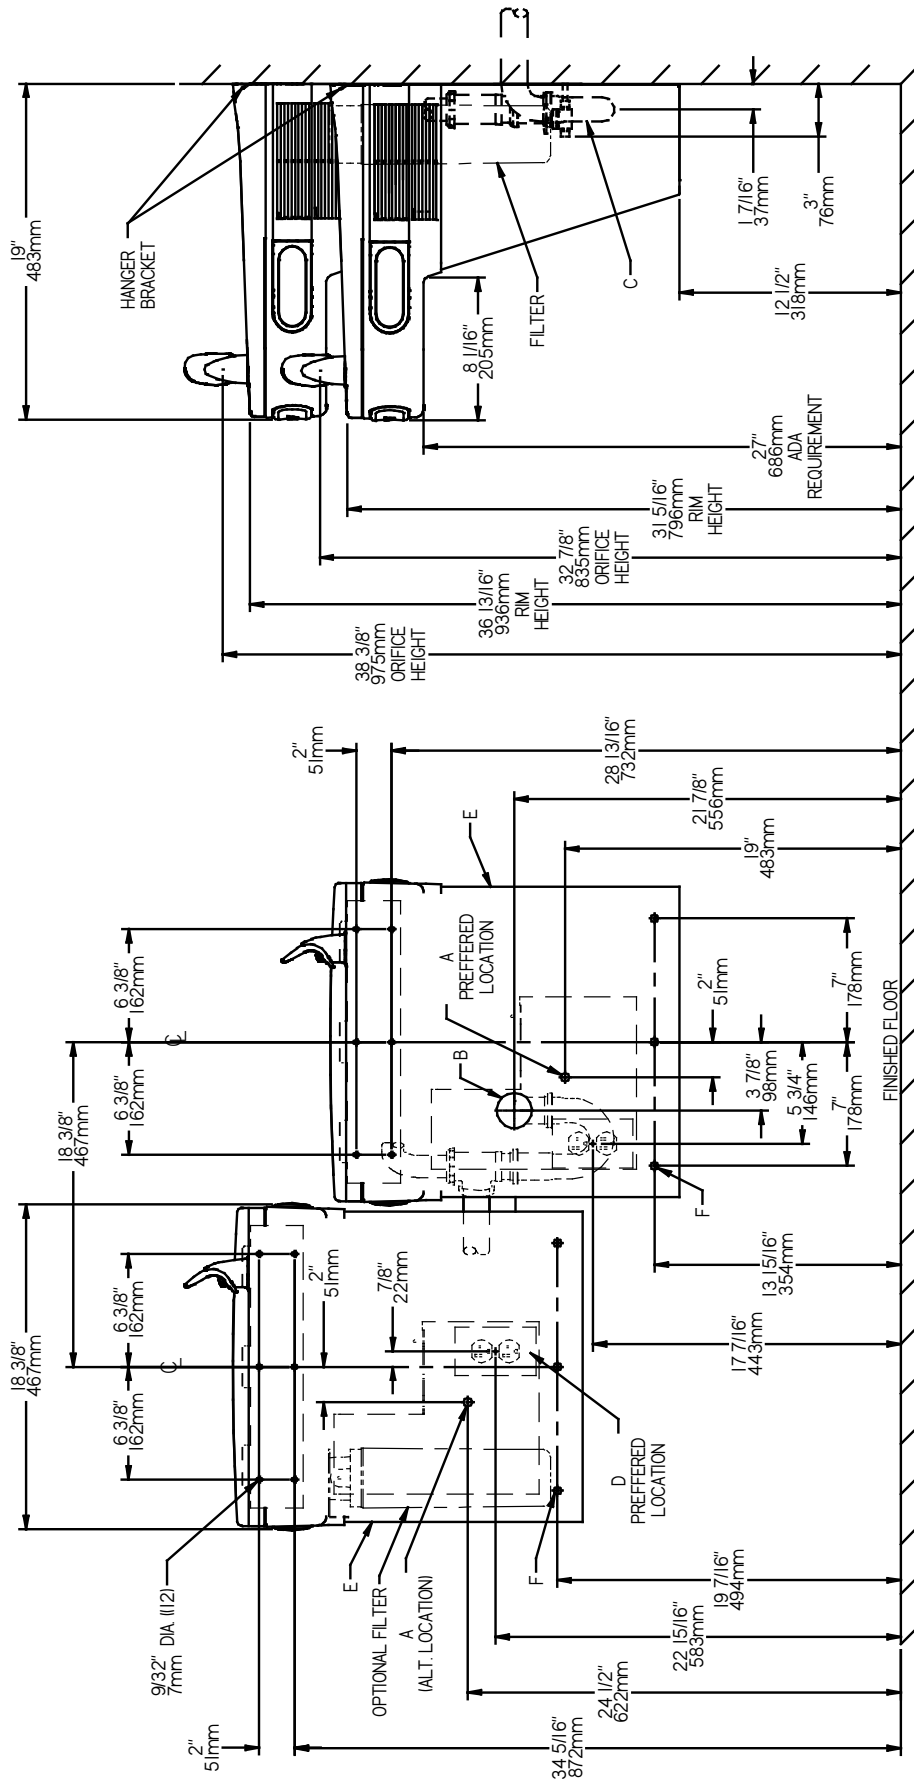

FIG. 2
- 1) Remove hanger brackets fastened to back of cooler by removing one (1) screw.
- 2) Mount the hanger brackets as shown in Figure 2 or 3.
- 3) Hang the cooler on the hanger bracket. Be certain the hanger bracket is engaged properly in the slots on the cooler back as shown in Figure 2 and 3.
- 4) Remove the four (4) screws holding the lower front panel at the bottom of cooler. Remove the front panel by pulling straight down and set aside.
- 1) Retire el soporte fijador que se encuentra conectado a la parte posterior del enfriador sacando un (1) tornillo.
- 2) Monte el soporte fijador de la manera descrita en Fig. 2 y 3.